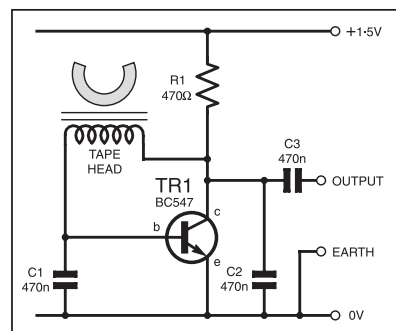

Fig.2. Simple Signal Injector circuit.
**W**ANTING a cheap and cheerful audio oscillator to help when working on audio amplifiers, and after considering multi-vibrators and the like, the circuit diagram shown in Fig.2 was finally selected. Its beauty is its simplicity.